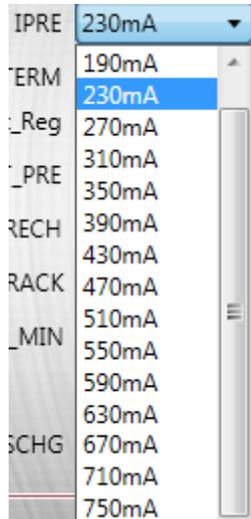

Figure 9: Setting the Pre-Charge Current
- The default value is 230mA (see Figure 9 on page 7).